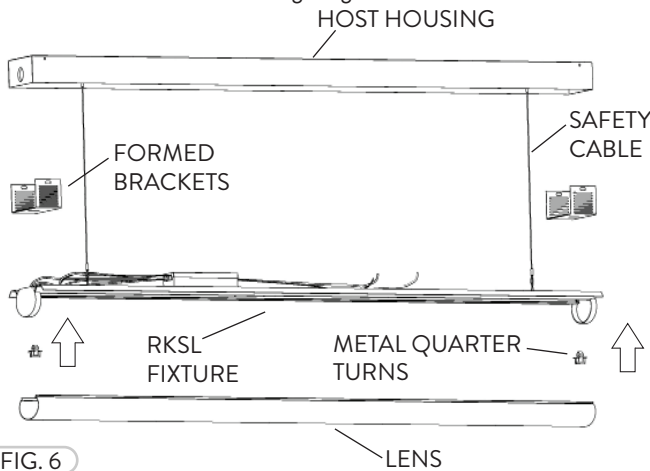

FIG. 6
- 2 The RKSL Retrofit Kit can be used to retrofit 4"-5.25" width fluorescent strip luminaire. The RKSL Retrofit Kit consists of the replacement strip light fixture, the brackets, and hardware (Fig. 6). Install Brackets (Bend to fit into place), install Safety Cables, and connect wires (refer to Wiring Diagram).